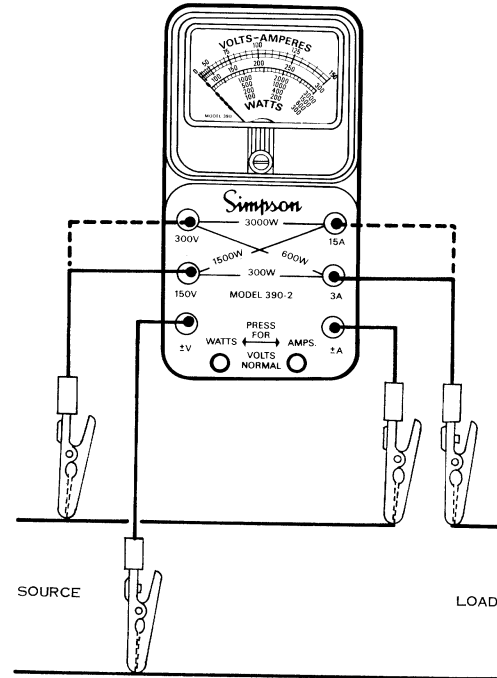

Figure 4-2. Model 390-2 and Special Test Lead Set Application
**4.4.3** In cases when it is not convenient to use the Break-in Cable Assy., the special test lead set (see Table 7-2) can be used. For line voltages up to 150 volts, connect the  $\pm V$  and the 150V jacks across the line and the  $\pm A$  and the 3A or 15A jacks in series with the load for 300 and 1500 watt ranges respectively. The leads are color coded to match the colored dots of the respective jacks (see Figure 4-2). For line voltages between 150 and 300 volts, connect the  $\pm V$  and the 300V jacks across the line, and the  $\pm A$  and the 3A or 15A jacks in series with the load for the 600 and 3000 watt ranges respectively.
- k. Connect the Model 390-2 as an ammeter in series with the line and the load using the Special Test Lead Set, or as a wattmeter (see Figure 4-2).